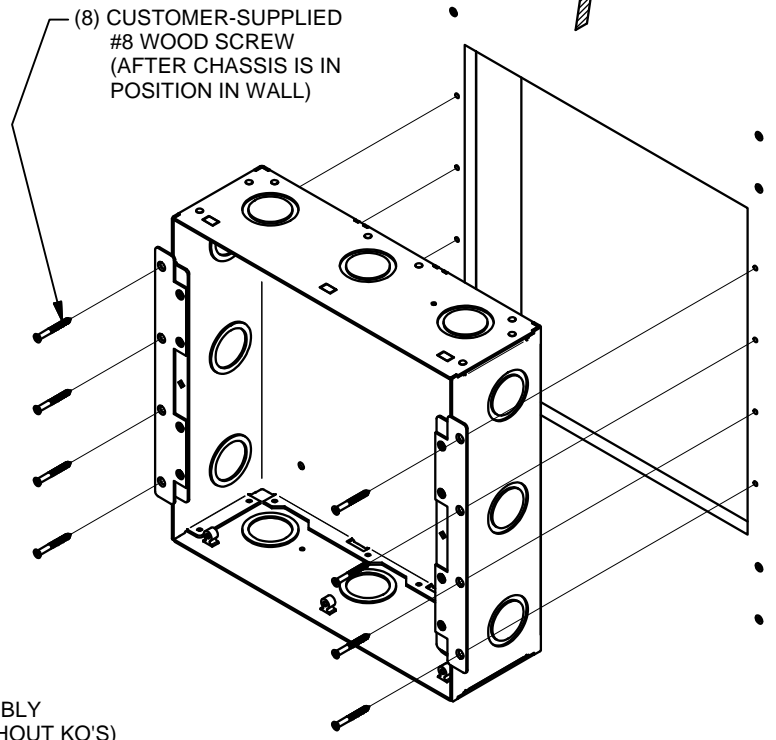

FIGURE 14
5. MOUNT CHASSIS ASSEMBLY TO WALL AS SHOWN IN FIGURE 14.